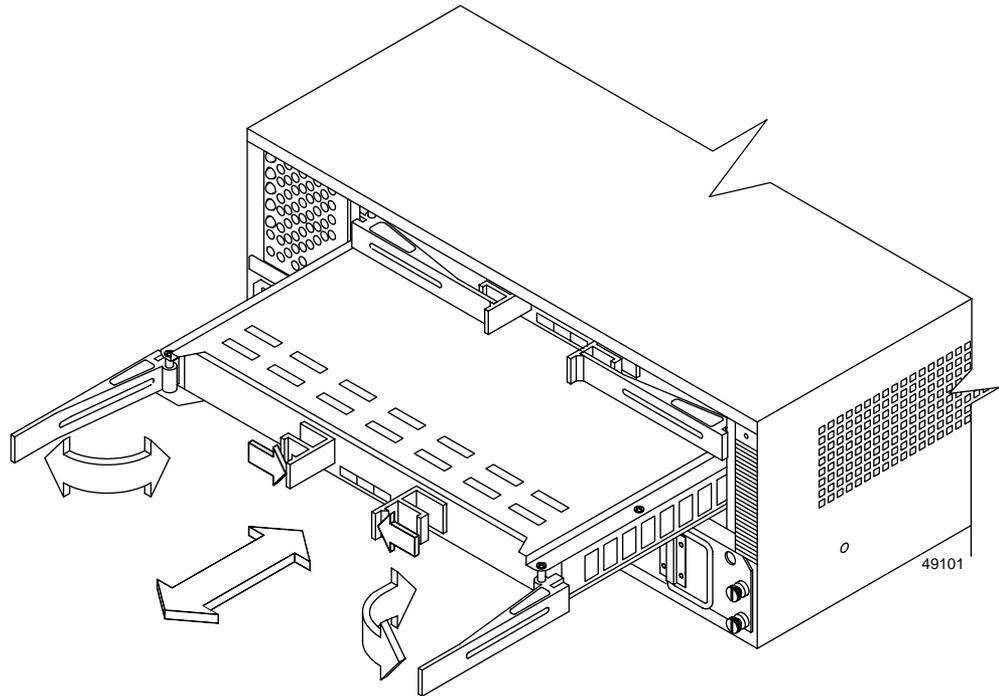

Figure 4-2 Removing and Installing a Controller Canister
4. Remove the failed controller by squeezing the two center tabs, opening the handles, and sliding the canister out of the enclosure. Close the handles (Figure 4-2).